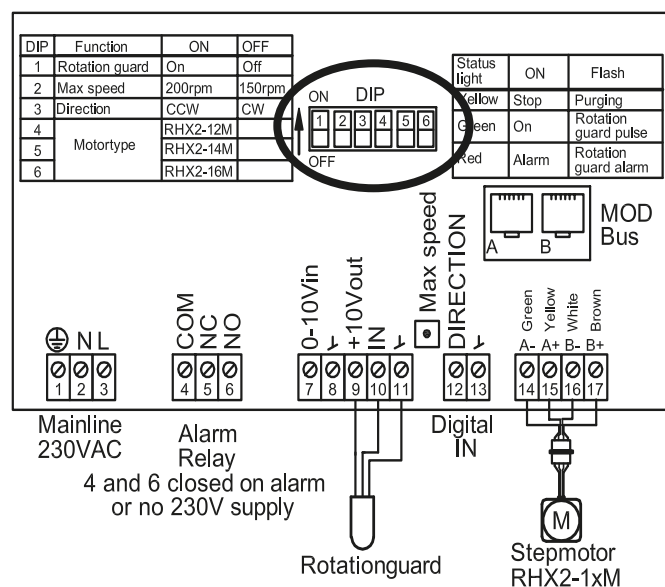

Fig. 4. Electrical connections
The direction of motor rotation, clockwise (CW) and counterclockwise (CCW) is set by means of DIP switches (See Fig. 4).
The control system is factory-preset for the correct type of motor by means of DIP switches (See Fig. 4). Note that only one of the DIP switches, nos. 4 – 6, is permitted to be set to the ON position!
When you press the "max. speed" test button (See Fig. 4) the 0 - 10 V input is over-modulated by 10 V, and the motor speed increases to the maximum speed of rotation. It is not necessary to interrupt the connected 0 – 10 V signal. Any alarms that have tripped should be shut off first.